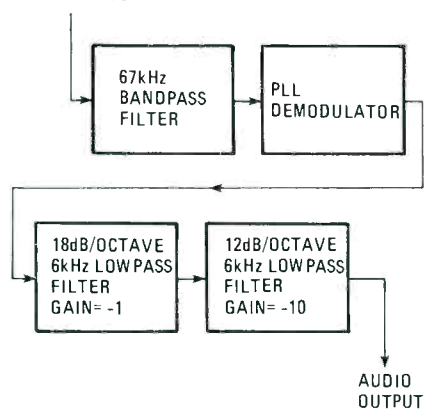

Fig. 1. This block diagram shows the four circuit functions of the SCA Adapter. The corresponding functions are also marked on the circuit diagram in Fig. 2.
**How it Works.** Figure 1 shows a block diagram of our circuit. The 67-kHz signal present at the output of the FM detector (in the radio to be modified) is first fed to a 67-kHz bandpass filter, and then to a phase-locked loop (denoted PLL), which recovers the audio on the 67-kHz subcarrier.